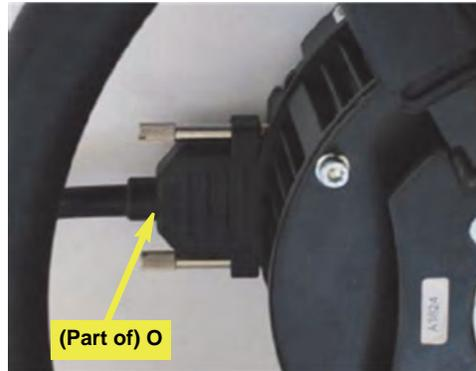

Figure 8b: Junction box comms cable connected to steering wheel assembly
- c. Clip the junction box **O** into place on its bracket **P** (neither shown) then connect **O**’s 15-pin connector cable to the communications port on the steering wheel assembly (Figure 8b). Use clip **R** suitably (not shown).